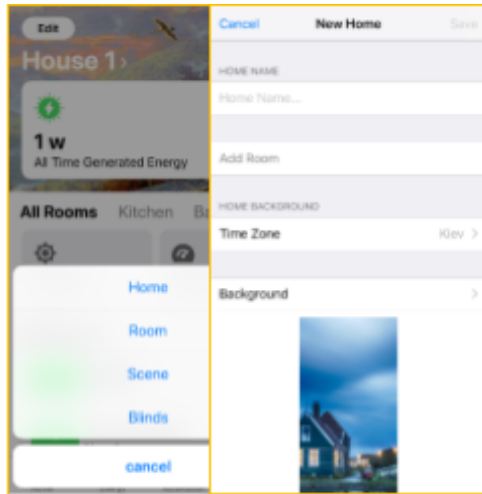

Figure 17
**10.5.2.** Select **Home** from the menu options (Fig. 17).